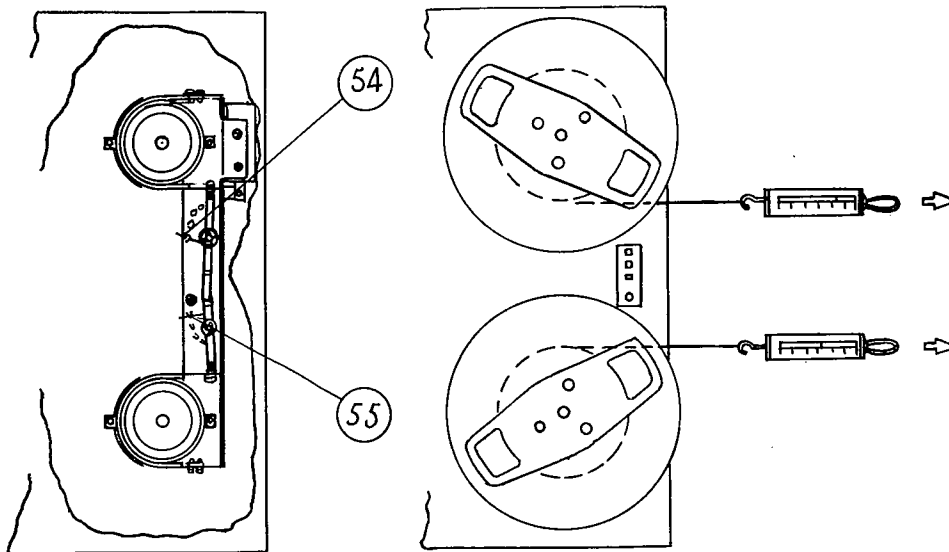

FIG. 7 BRAKE ADJUSTMENT
Brake adjustment is made (with no power applied to the equipment) at the point shown in Fig. 7.
6. Adjust the left motor brake by the position of the brake adjusting plate (54, Fig. 7 for a scale reading of approximately 5.5 ~ 7 ounces (11 ~ 14 in.-oz.).